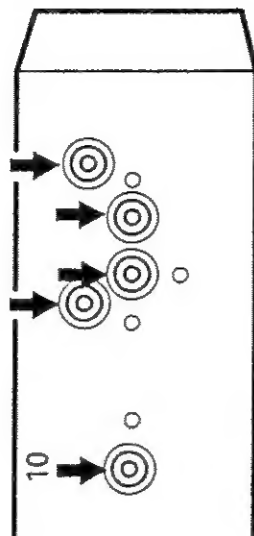
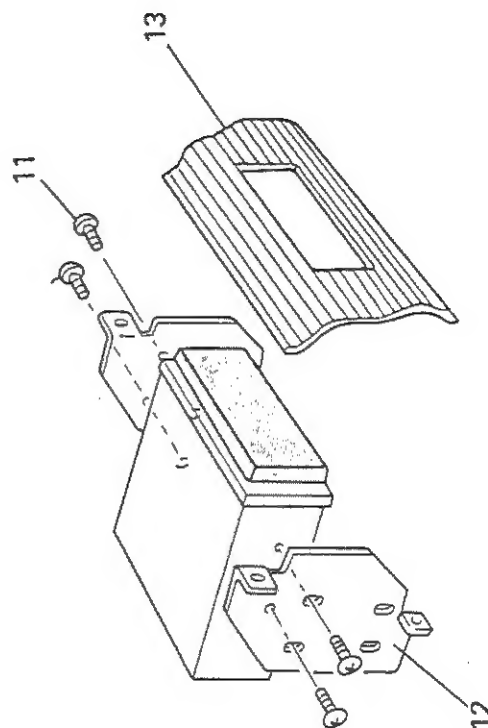

Fig. 12
Fig. 13
2. Fastening the unit to the factory radio mounting bracket (Fig. 12) (Fig. 13)